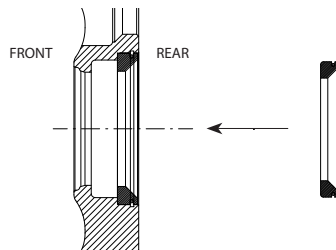

Figure 7: Aluminum ring installation
- 4- Secure the aluminum centric ring through the locking ring (when provided) as in *Figure 7*. The fit should be precise, with a minimal gap;